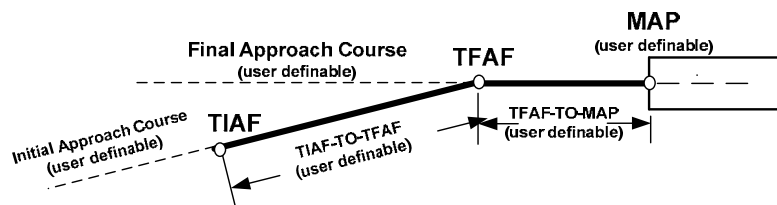

Figure 11-7 Tactical Approach Lateral Profile Geometry
- The Final Approach Course (LSK 4L). Refer to Figure 11-7.